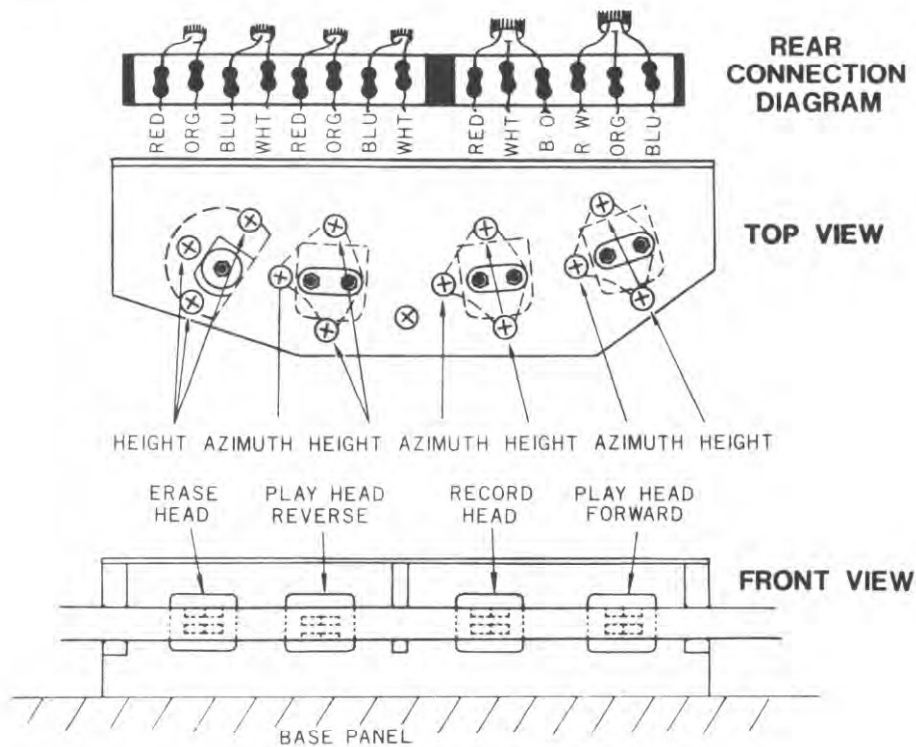

FIG. 7 HEAD ASSEMBLY
2. Locate the wires from the defective head and note the points to which they are soldered. Refer to Figure 7.
7. Head height is adjusted at the factory to very critical tolerances. Normally head replacement would not disturb the height adjustment. If highly critical adjustment is required, refer to Figure 7. Adjustment is made with the 3 screws holding the head plate to the top plate.
5. Play a 12 or 15 KHz tone and turn azimuth adjustment screw (Figure 7) of the forward playback head until a maximum peak is obtained on the VTVM.
6. Depress the \triangleleft button and turn azimuth adjustment screw (Figure 7) of the reverse playback head for maximum peak on the VTVM.
2. While recording a 15 KHz signal on the tape, set the LINE input control so the VTVM reads -15 to -20 dB below normal operating level. Adjust the record head azimuth screw (Figure 7) for maximum output.